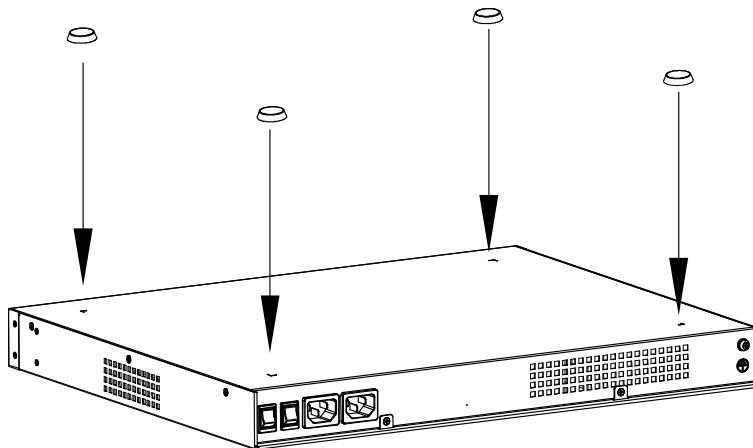

Figure 3-1: Installing the Feet Plaster
**Step 2:** Press the sticky side of the feet to the right-angle die-pressed mark on the bottom panel of the chassis. See Figure 3-1.